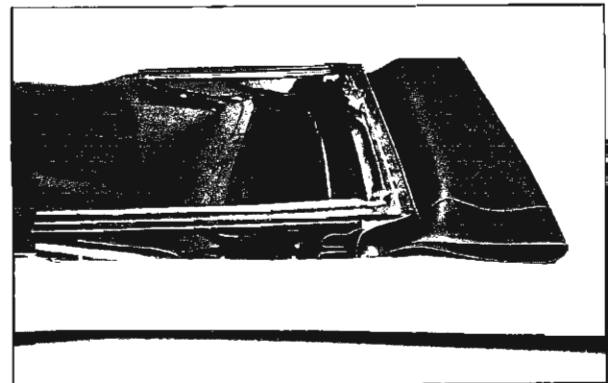

Fig. 21-7 Smooth Out Top Material
D. Operate top control switch until top is in fully lowered position. Smooth out top material on body panel (Fig. 21-7).
2. Smooth out top material on body panel (Fig. 21-7).